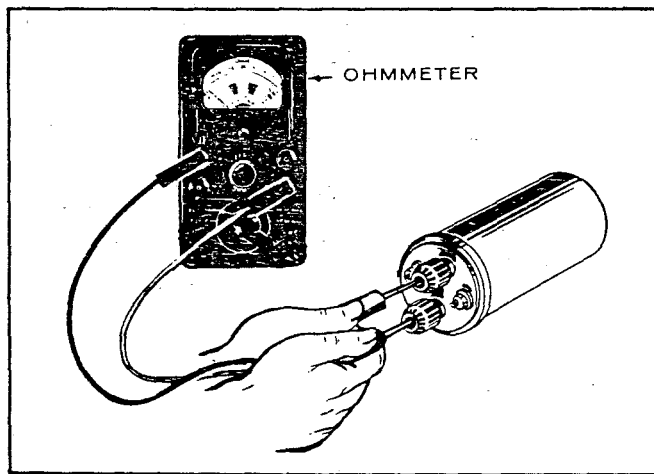

FIGURE 12. IGNITION COIL TESTING
3. Change resistance setting on ohmmeter. Place ohmmeter leads inside of spark plug cable holes (Figure 12). Secondary resistance should read 12,600 - 15,400-ohms.